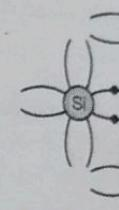

Fig. 1.2.1 : n-type semiconductor
1.2.1(A) n-Type Semiconductors
- As shown in Fig. 1.2.1 antimony (Sb) added atom forms covalent bonds with the surrounding four valence electrons and the fifth valence electron remains which becomes available as current carrier.